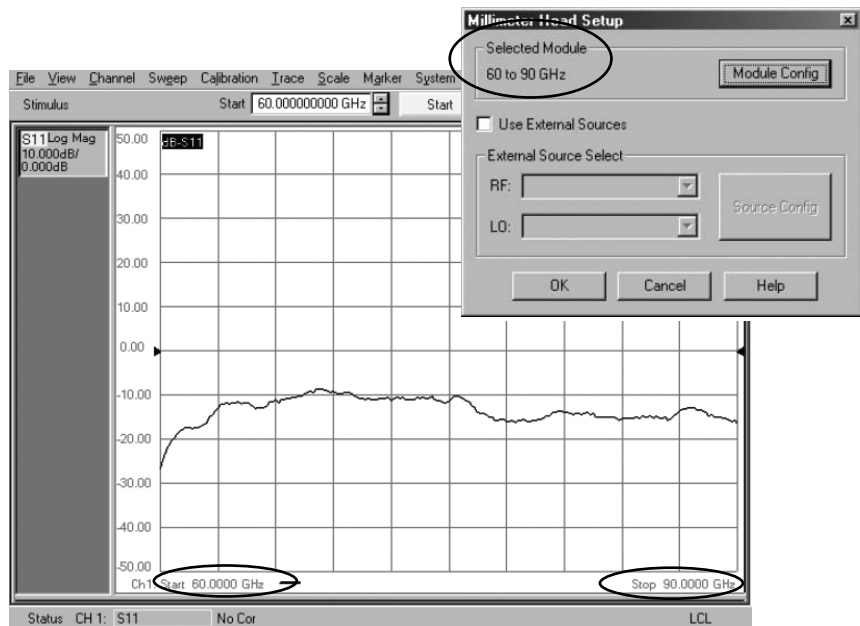

Figure 8. PNA operating in newly created millimeter-wave band configuration.
5. To apply a configuration, highlight the configuration, and then click on **Activate Selected Config**. This brings up display (e), click **OK** and the PNA will exit and restart with the new configuration, as shown in Figure 8. This step may take a minute.